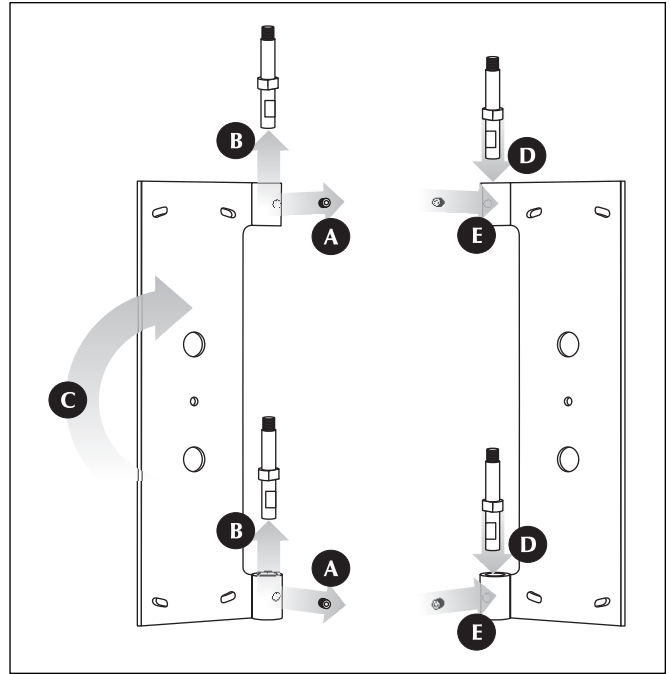

Figure 10. Changing the pivot direction of the Script i wall bracket.
- 2 Using a 2.5mm Allen tool carefully loosen the 2 set screws that hold the 2 hinge pins in place (see figure 10, step A).
- 3 Remove the 2 hinge pins (see figure 10, step B).
- 4 Rotate the wall bracket 180 degrees (see figure 10, step C).
- 5 Reinstall the 2 hinge pins (see figure 10, step D).
- 6 Using a 2.5mm Allen tool, reinstall the 2 set screws to lock the hinge pins in place. Make sure the set screw tightens against the flat surface of the pin (see figure 10, step E).